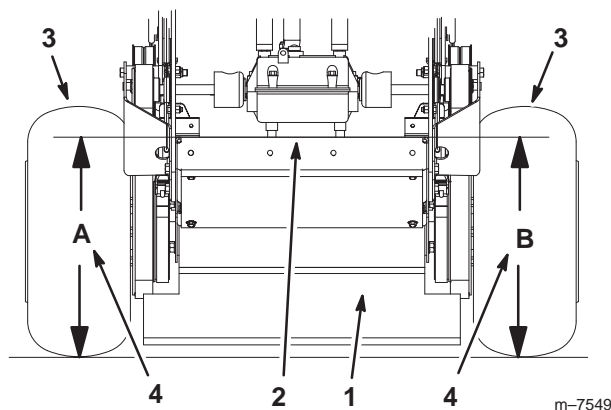

Figure 51
4. Measure engine deck height at location A (Fig. 51).
5. Measure engine deck height at location B (Fig. 51).